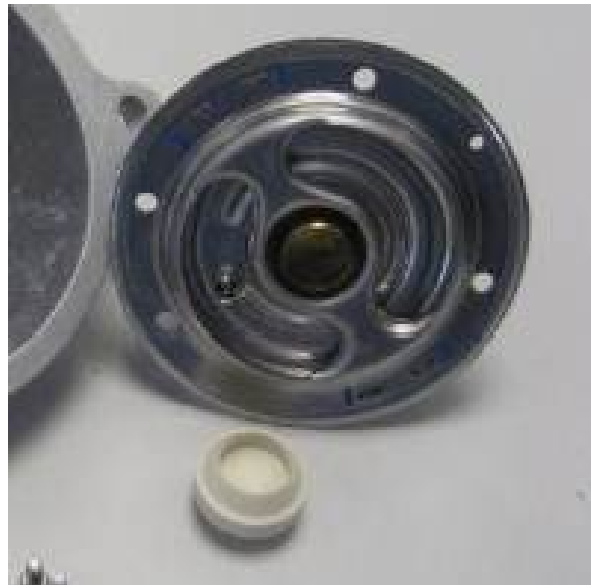

Figure 3. *Insulation sleeve.*
4. Ensure that the insulation sleeve is fitted on the underside of the thermostat element (Figure 3). Before fitting the insulation sleeve and O-ring, lightly coat them with coolant.